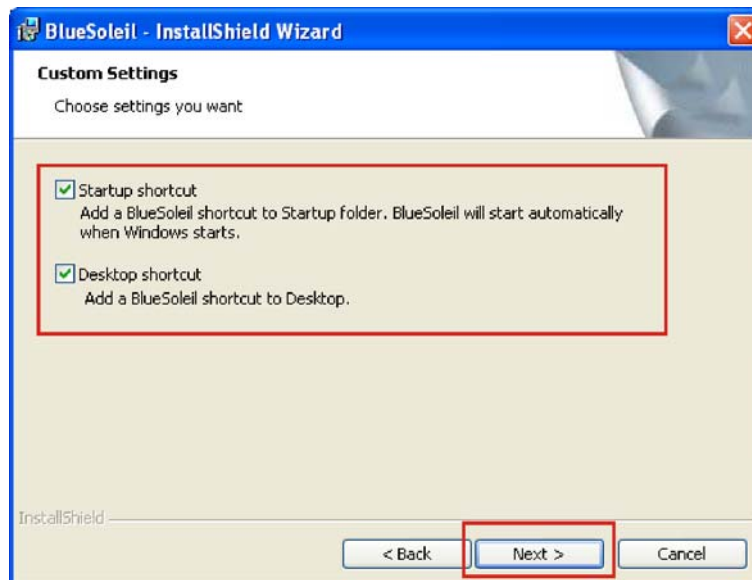

Figure 6-43: Custom Settings
Step 11: The custom settings screen appears (Figure 6-43).
Step 12: Select the shortcuts that the installation program should install (Figure 6-43).
Step 13: Click **NEXT** to continue (Figure 6-43).